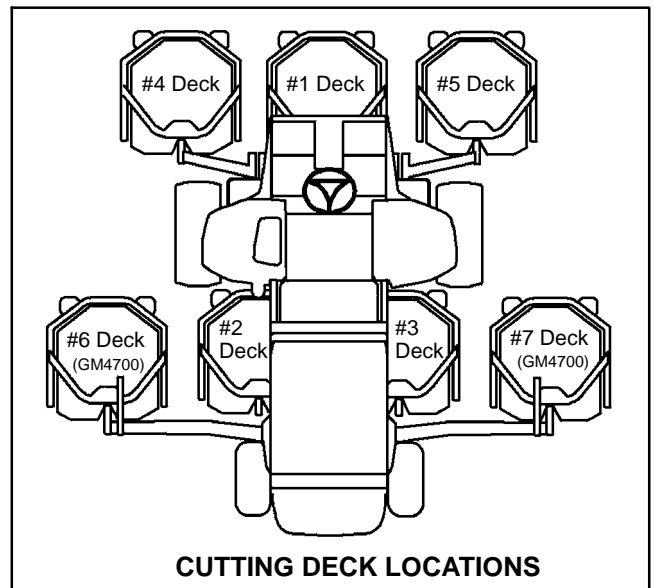

Figure 44
1. Make sure hydraulic oil is at normal operating temperature by operating the machine for approximately ten (10) minutes. Make sure the hydraulic tank is full.
A. For pump section (P1), cutting deck manifold relief is tested at the inlet to the deck #5 motor (Fig. 44).
B. For pump section (P2), cutting deck manifold relief is tested at the inlet to the deck #1 motor (Fig. 44).